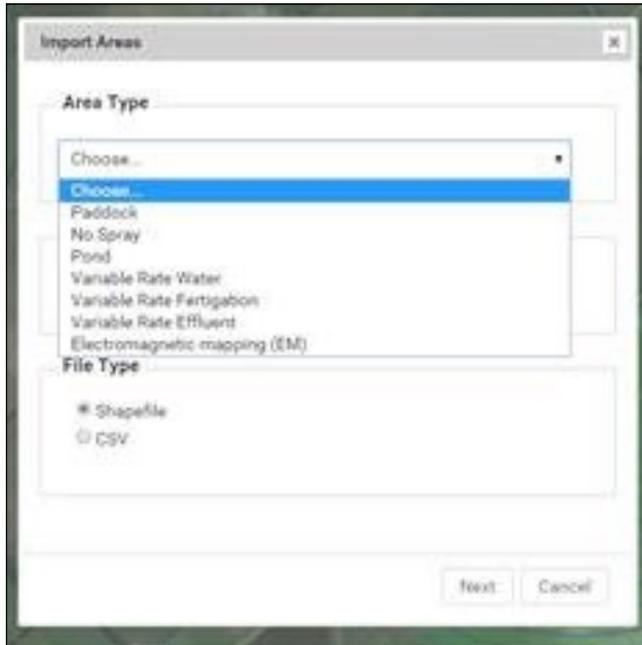

Figure 19-1
2. Select the Area Type and Cluster from the drop-down menus. Refer to Figure 19-1.